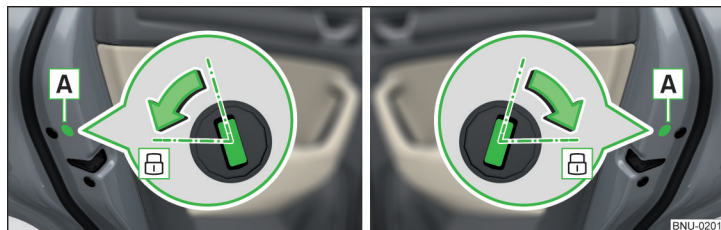

Fig. 274 Left door/right door:
- In vehicles with the panel **A**, remove this panel » Fig. 274.